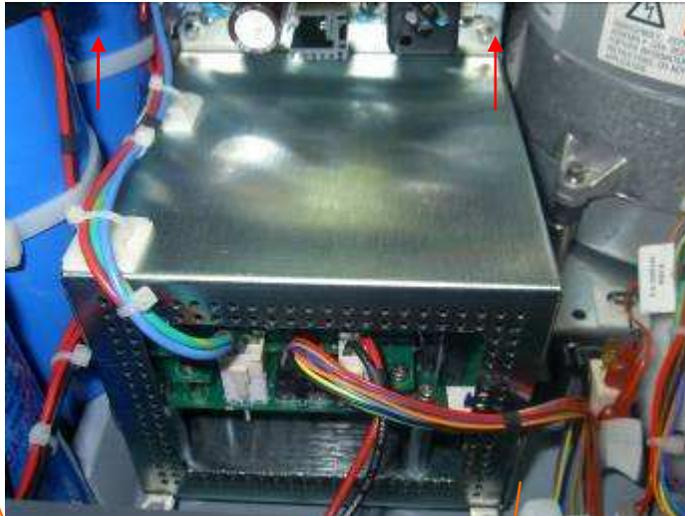

Figure 131
4. Open the Charger's top cover (Figure 131).